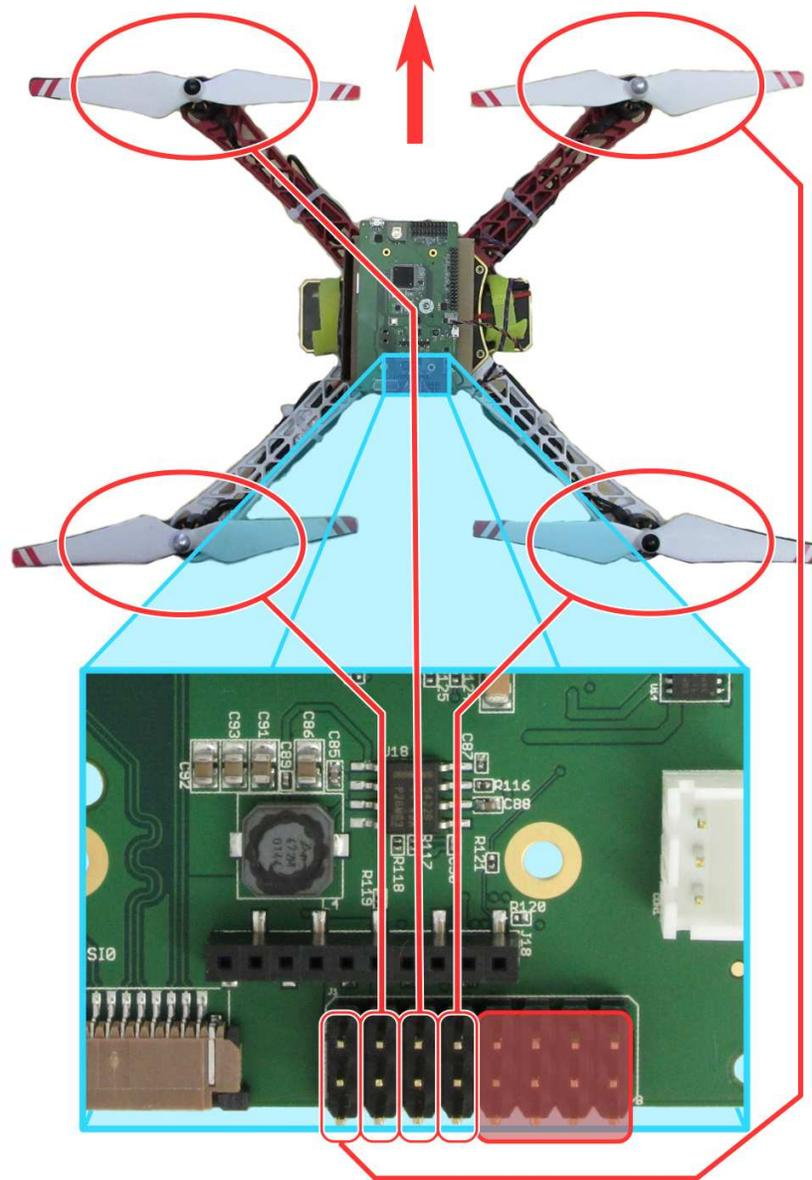

Figure 5: AeroCore 2 PWM Configuration
Next, the input wires for the Electronic Speed Controllers (**ESCs**) must be connected to the AeroCore 2's PWM header. The PX4 firmware requires that the PWMs be connected in a specific order. Figure 5 below illustrates that order.
- ESCs connected correctly and securely to PWMs (See Fig 5)